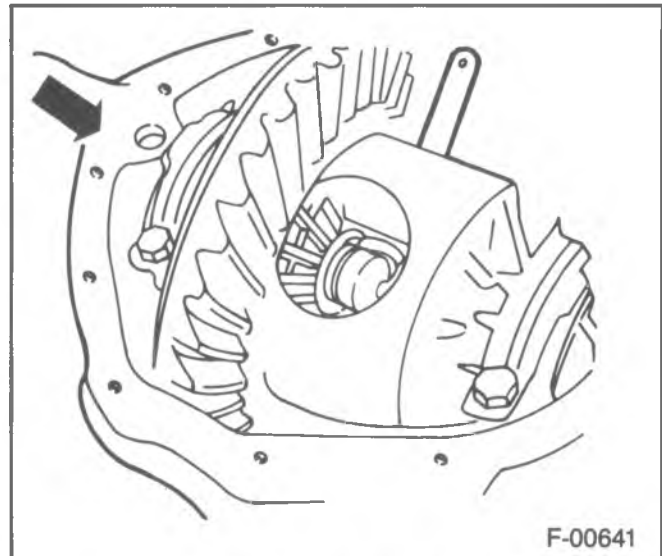
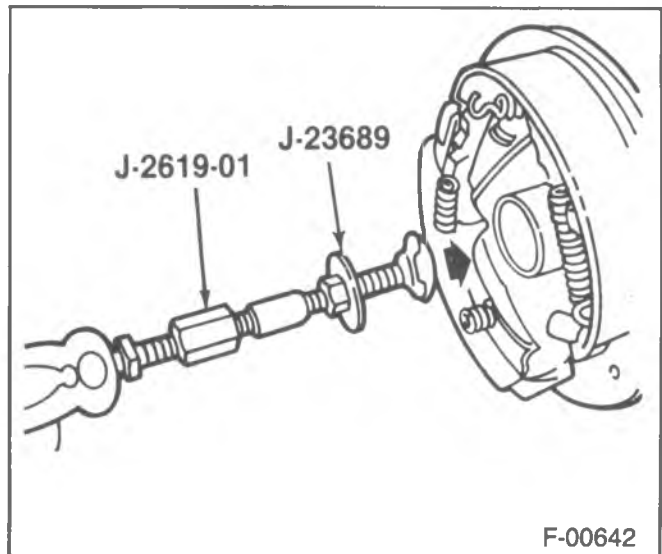

Figure 11—Pushing the Axle Shaft Inward
Figure 12—Removing the Bearing and Seal
6. Lock (13) (figure 11).
7. Axle shaft (12).
8. Seal (14) using J-23689.
9. Bearing (15).
- Insert the tool into the axle bore so that it grasps the bearing behind the bearing (15) (figure 12). Tighten the nut and washer against the face of the bearing (15).